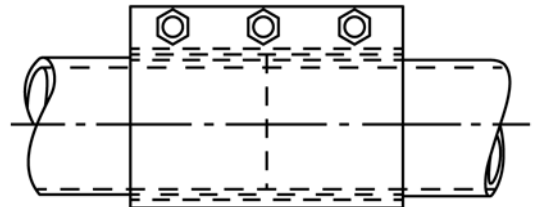

FIG. X4.1 Compression Coupling
**X4.3.2 Compression Couplings**—A mechanically fastened coupling that connects straight end tubing or fittings within the ID of the coupling. These couplings offer an easy “tear down” or “repair” function (see Fig. X4.1 and Fig. X4.2).